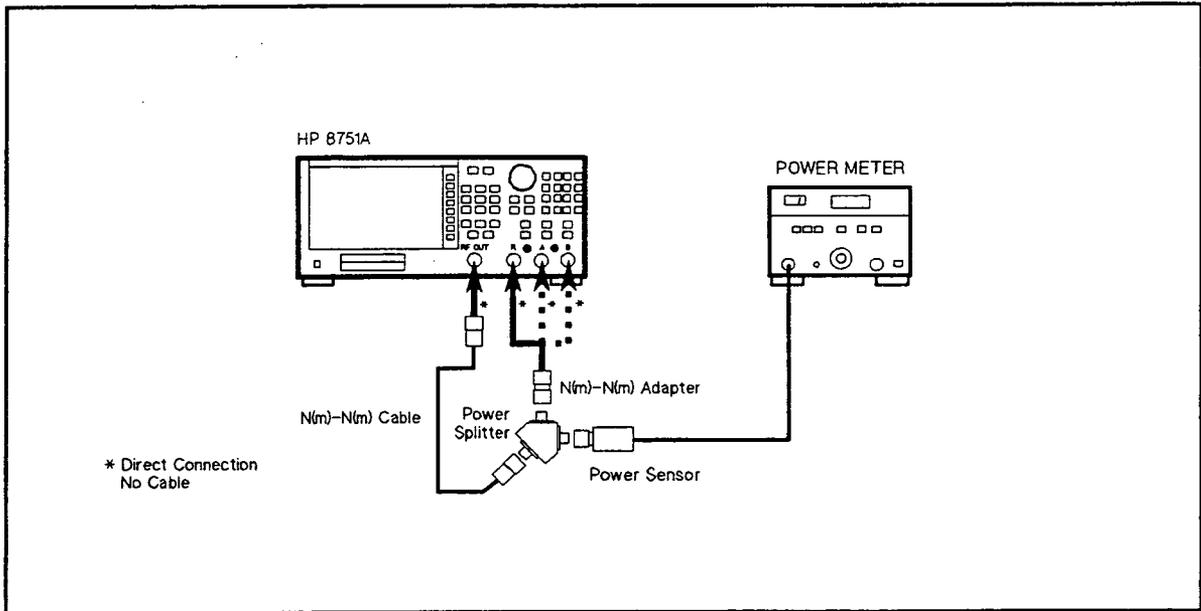

Figure 2-19. Absolute Amplitude Accuracy Test Setup 2
- Remove the digital multimeter from the power splitter, and connect the power sensor to the power splitter as shown in Figure 2-19.